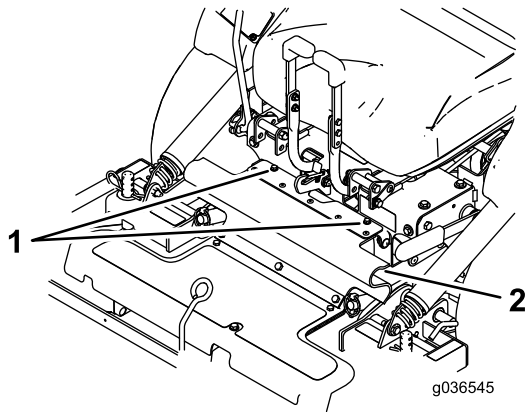

Figure 79
8. Loosen the bolts attached to the rubber guard (Figure 79).
8. Align the upper portion of the rubber guard and secure it with the attached bolts (Figure 79).